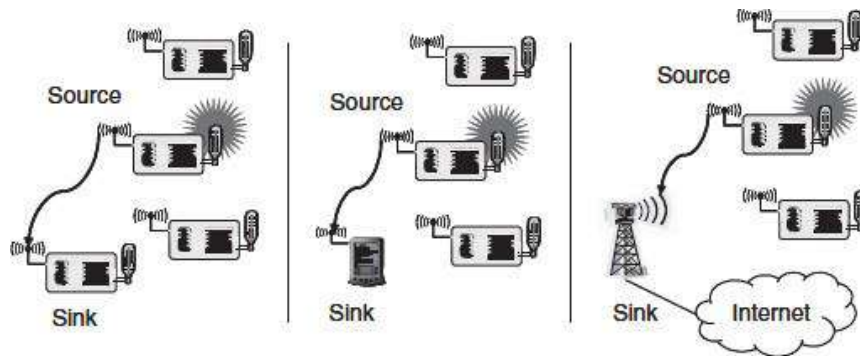

Figure 2.5 Three types of sinks in a very simple, single-hop sensor network
- Source is any unit in the network that can provide information (sensor node). A sink is the unit where information is required, it could belong to the sensor network or outside this network to interact with another network or a gateway to another larger Internet. Sinks are illustrated by Figure 2.5, showing sources and sinks in direct communication.